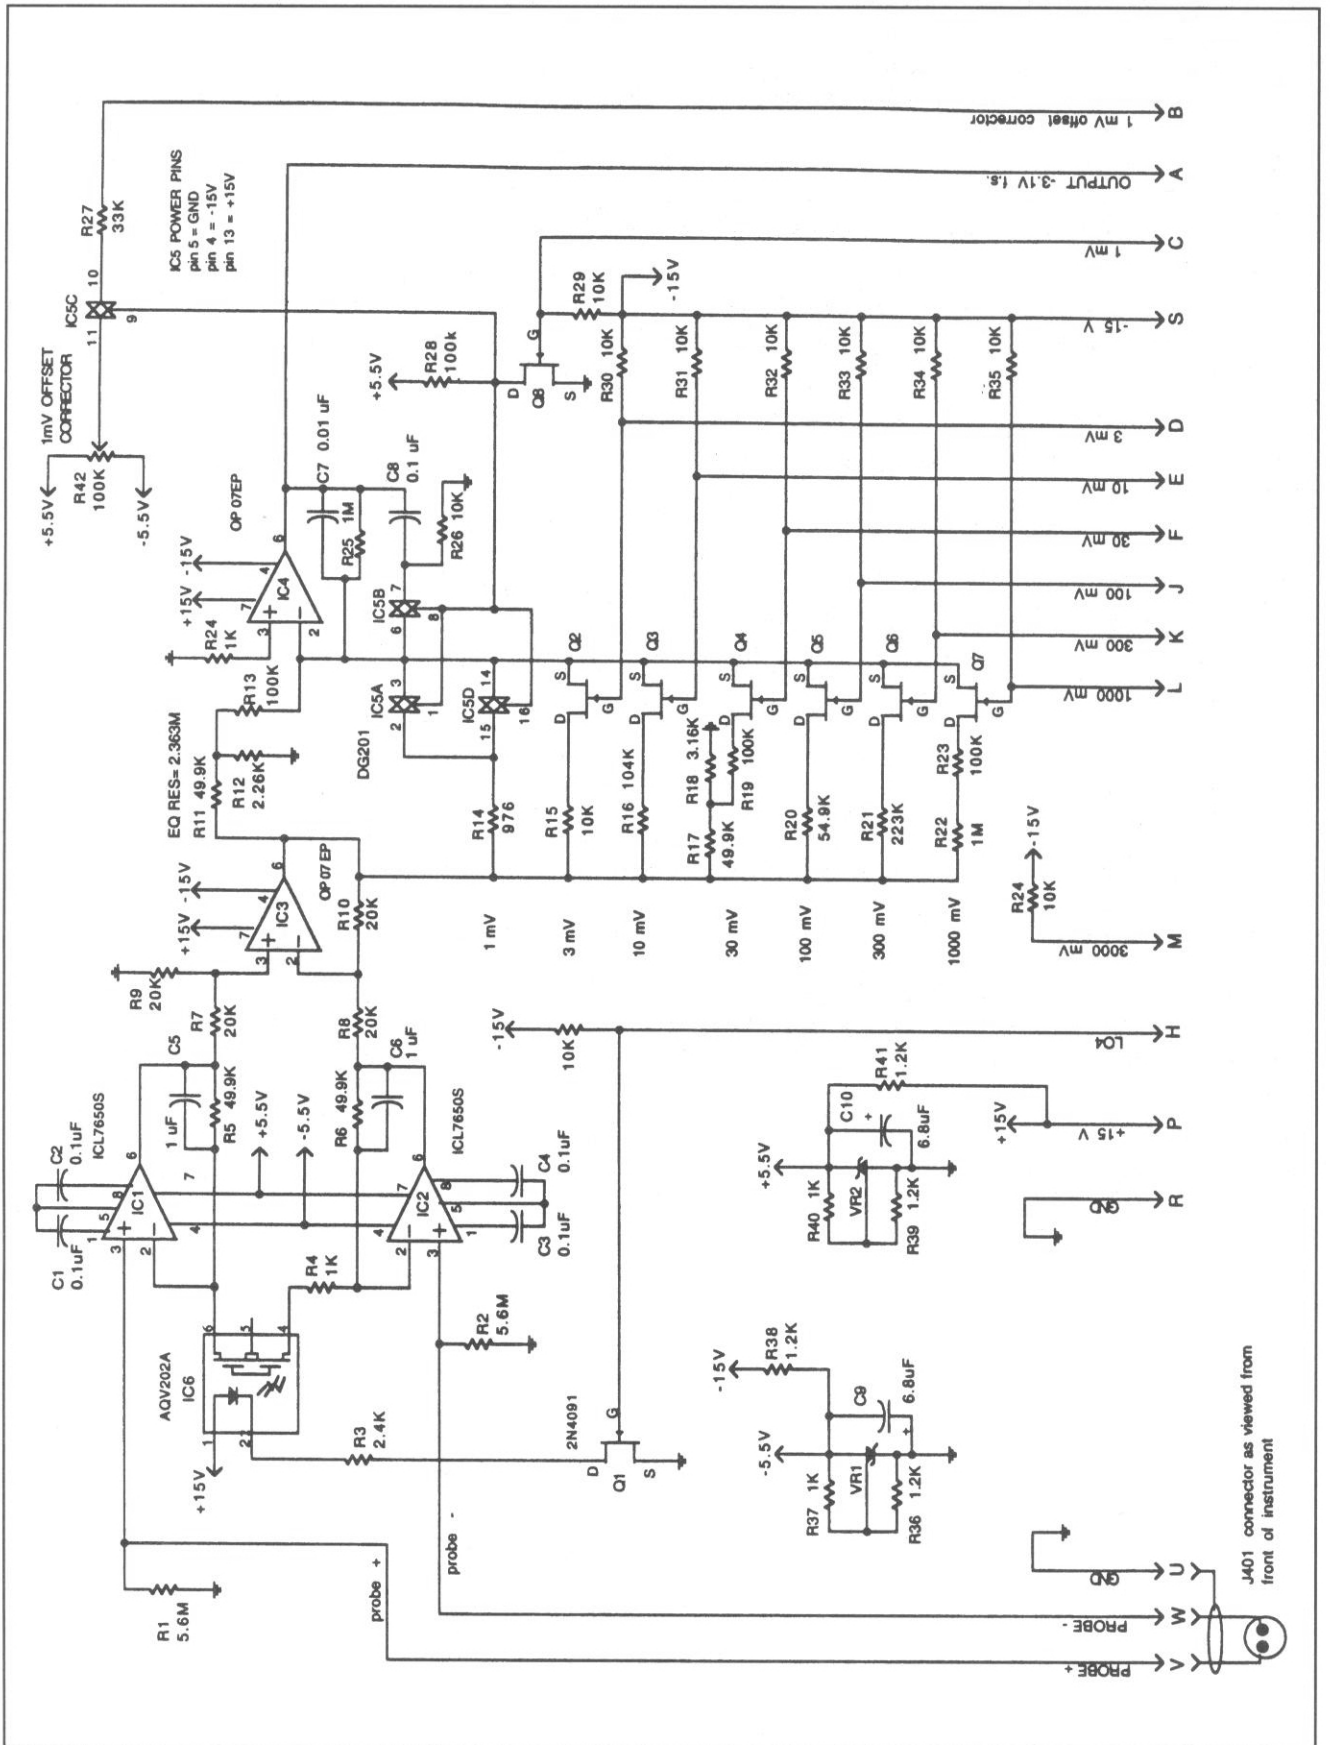

Figure 3. DC amplifier for modified Boonton 92 RF voltmeter.
**Figure 3** shows the circuit schematic of the new amplifier that plugs into the chopper driver/sync detector slot of the voltmeter (connector slot J101). This slot provides the  $\pm 15$  volt supplies and the range control lines for switching the amplifier gains. The ICL7650 chopper-stabilized operational amplifiers IC1 and IC2 amplify the differential probe signals. Resistors R4, R5, and R6, and photo-MOS relay IC6 set the amplifier gain. The LO 4 line is derived from diode logic on the voltmeter motherboard. It turns on IC6 output MOSFETs at the 30-mV range and below. This sets the preamplifier gain at 100. The photo-MOS relay IC6 minimizes thermally induced offsets generated at the relay "contacts" (normal relay contacts can easily generate 10  $\mu$ V offsets, while this device has 1  $\mu$ V typical offset specification). IC6 also pro-